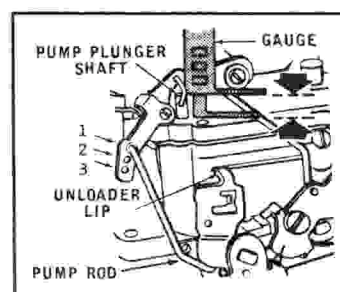

Figure 3
C. Pump: (Fig. 3)
G. Unloader: (Fig. 3)